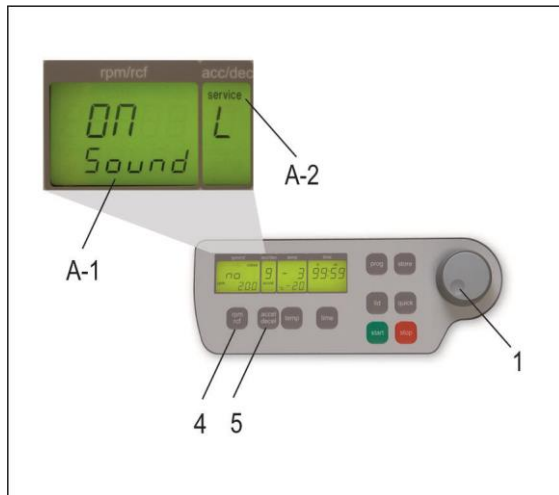

Figure 7
Proceed as illustrated under point 1.8.1 to enter this program mode, press the key "accel/decel" (5). In the display "accel/decel" (A-2) flashes the word "service". Select the letter "L" with the adjustable knob (1). As a result appearing in the display "rpm/rcf" (A-1) are the words "On Sound". By pressing the key "rpm/rcf" (4) the word "On" flashes and the sound can be switched off with the adjustable knob (1), (see Figure 7).